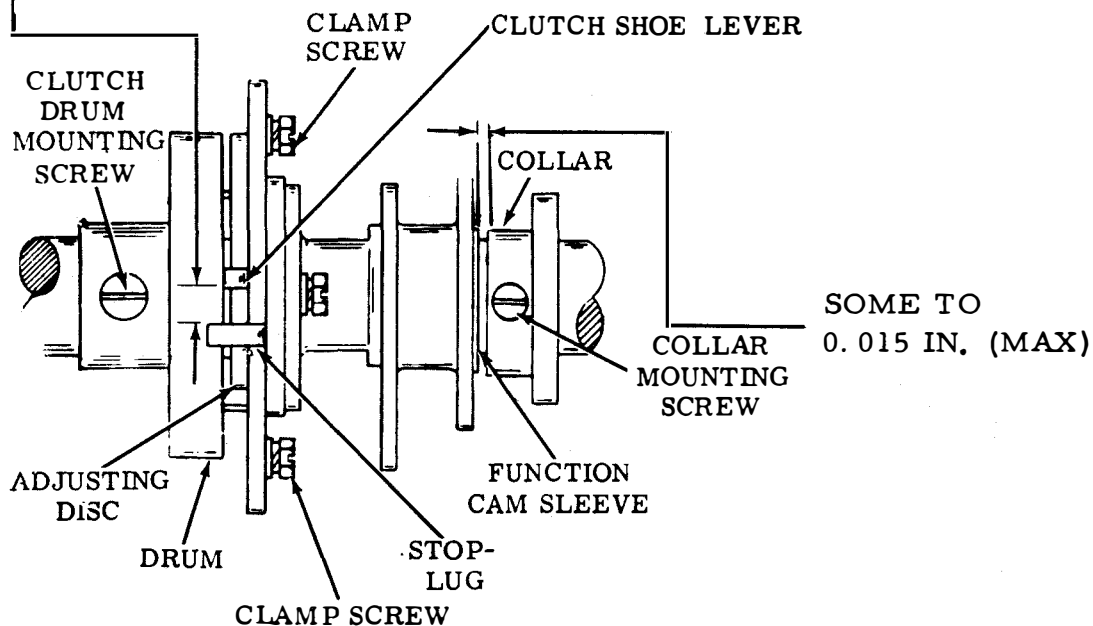

Figure 6-3. Clutch Shoe Lever and Function Clutch Drum End Play For One-Shaft Units - Right Side View
- (a) Refer to figure 6-3.
(2) Function Clutch Drum End Play For One-Shaft Units. Adjust as follows: